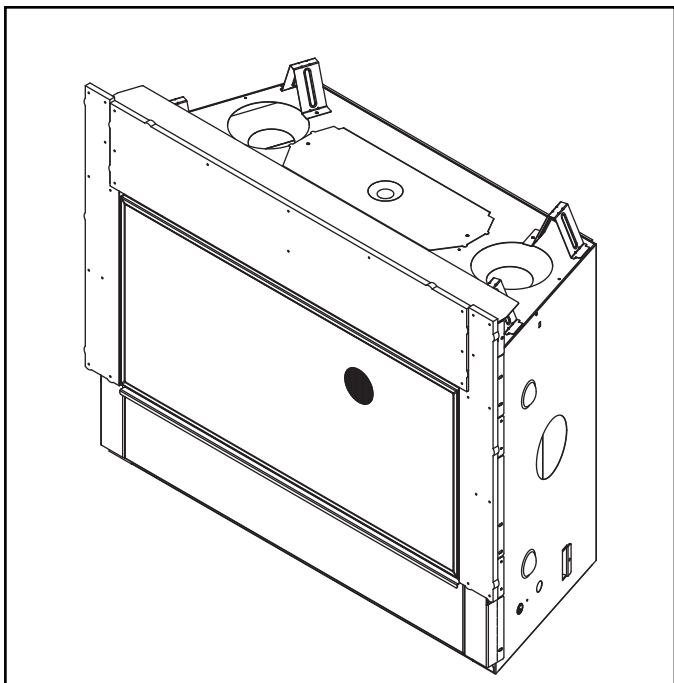

Figure 11.6 Decorative Barrier Front Installed
6. Install the decorative barrier front assembly by hanging it from the four tabs located on the auxiliary brackets. There are two tabs on the left side and two tabs on the right side. See Figure 11.6.